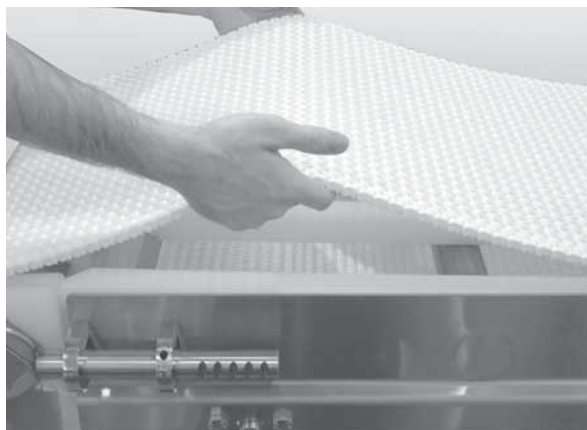

Figure 55
3. Lift up on the belt (**Figure 55**).